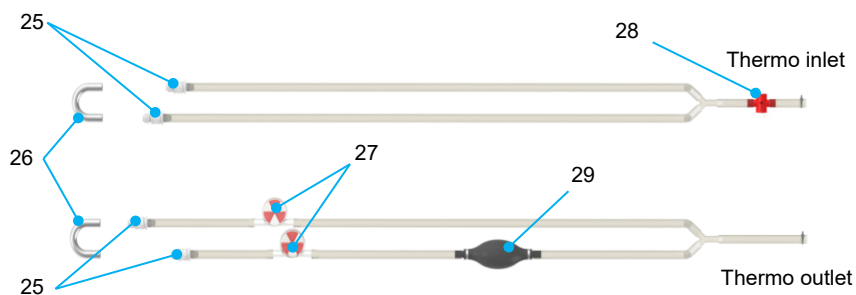
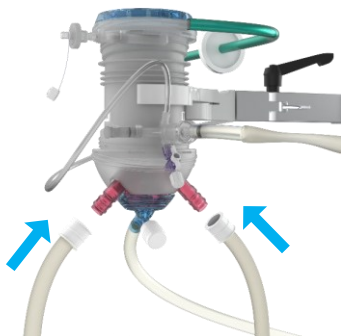

Figure 7 Thermo tubing
Figure 14 Connect the thermo tubing to the oxygenators
The Thermo Unit maintains the temperature of the circulated perfusion solution using Peltier elements. Depending on the set temperature, these elements cool or heat the internal water circuit using thermoelectric effect. To transfer the temperature of the internal water circuit to the perfusion solution, the Thermo Unit is connected via silicone tubing to the heat exchanger ports of both oxygenators (Figure 7 and Figure 14). The outlet port of the Thermo Unit is connected to the “water in” port of the heat exchanger and the inlet port of the Thermo Unit is connected to the “water out” port of the heat exchanger.
- Place the thermo tubing (Figure 7) with the water tubing coupler (item 26) as low as possible. Ensure that during filling and de-airing (section 2.3.1), the Thermo Unit inlet and outlet (Figure 7, items 21 and 22) are at the highest point, so air bubbles move toward the Thermo Unit.
- Repeatedly squeeze the de-airing balloon (Figure 7, item 29) to push out as much air as possible from the thermo tubing on the HA side.
- Connect the thermo tubing to the oxygenators (Figure 14) using the water connectors (Figure 7, item 25). Each oxygenator has two thermo tubing connectors, and either connector can be used for the inlet or outlet. Ensure one tube is connected to the thermo inlet and one to the thermo outlet (Figure 7).